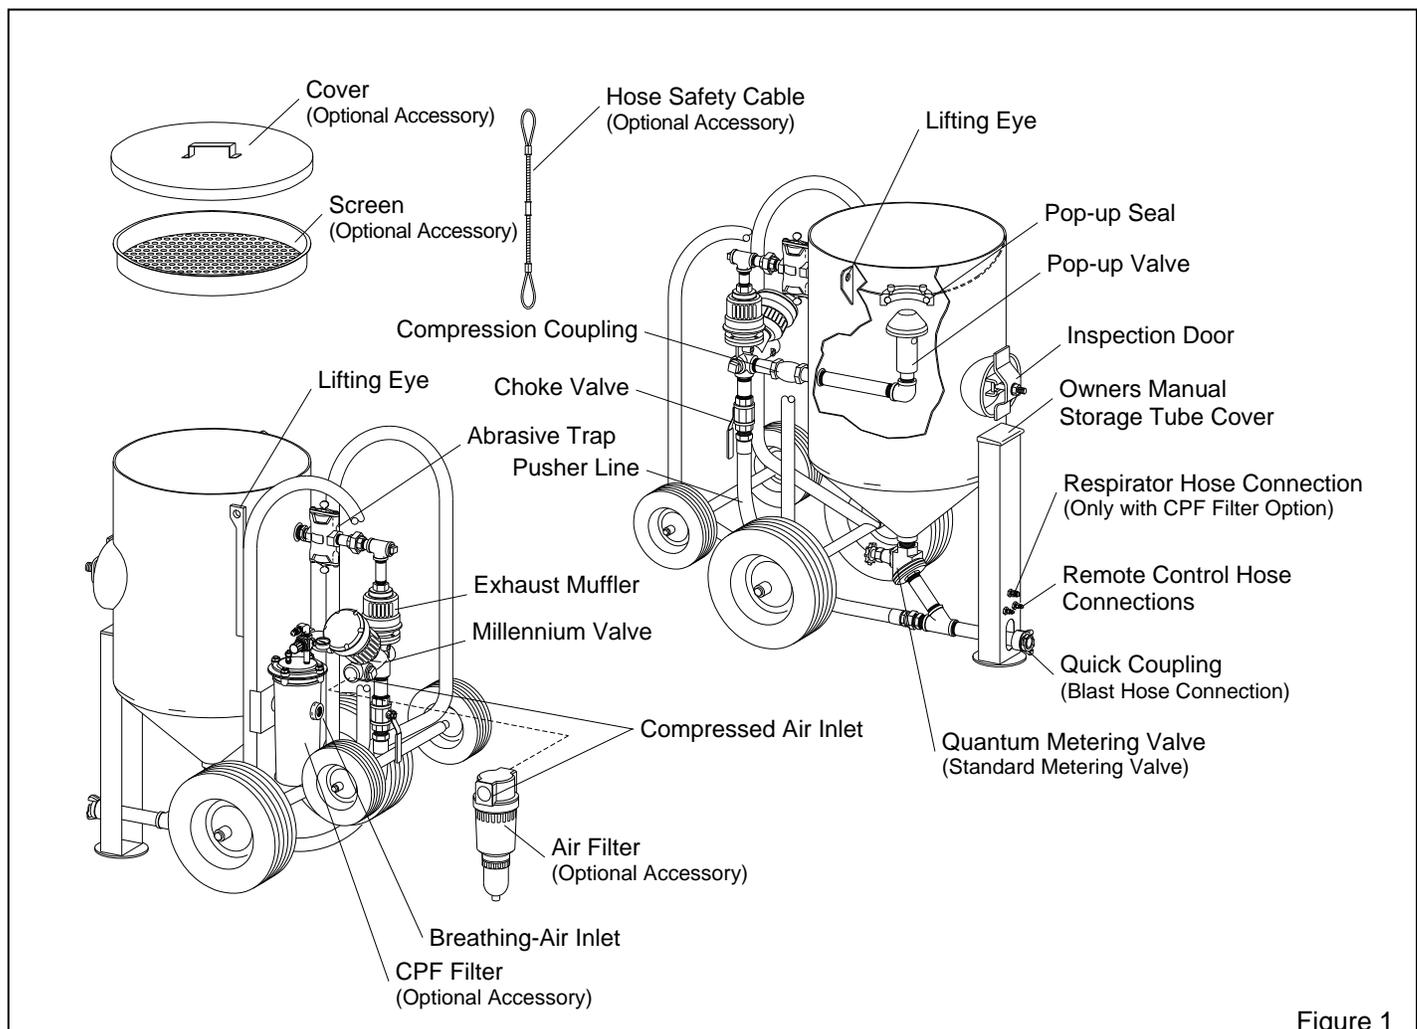

Figure 1
1.3.1.1 The primary components of the Contractor machines are shown in Figure 1. They include the blast machine with Millennium remote controls, manually operated Quantum abrasive metering valve, frame assembly, optional compressed air filter, and optional CPF air filter.
2.4.2 Connect an air supply hose fitting that is compatible with the air supply hose from an air source that meets OSHA requirements for respirable air, to the CPF Filter inlet as shown in Figure 1. Pressure supplied to the filter must not exceed 150 psi.